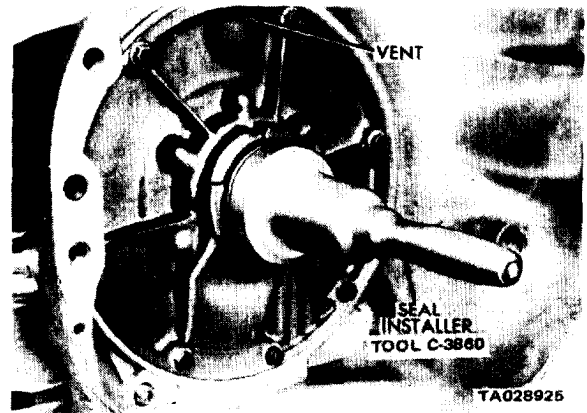

Figure 18-3. Installing Pump Oil Seal.
(2) Place a new seal in the opening of the pump housing with its lip facing inward. Use tool C-3860 to drive the seal into the housing until the bottoms (figure 18-3).